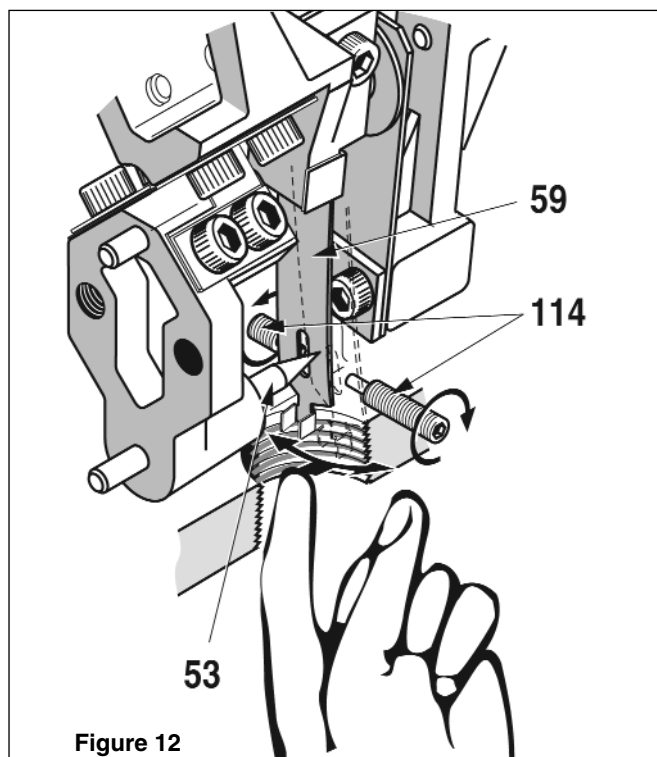

Figure 12
Through this hole, use your finger to move the flexure (59) in the direction of the torque tube until the flexure touches the adjusting screw post (114). While maintaining contact, slide the flexure left or right along the surface of the screw post, (Figure 12).
6.2.5 Setting of Adjusting Screws for SG 1 in Level Service (Figures 12 & 19 to 21)
Through the 3/4" NPT opening, use your finger to move the flexure (59) in the direction of the torque tube until it seats on the smooth end of the screws (114). While maintaining pressure, slide the flexure to the right or the left until it stops against the screw shoulder. See Figure 12.